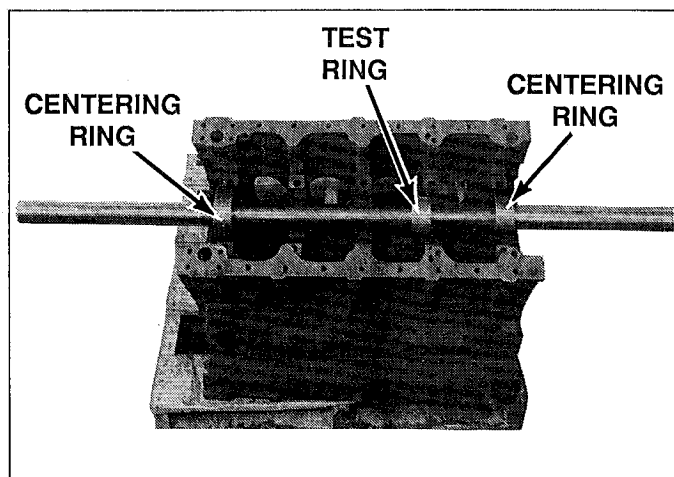

FIG. 2 INSTALLATION OF THE CENTERING RINGS
2. Install appropriate centering rings in each end saddle of the block (Fig. 2). You may have to tap on the centering ring with a plastic hammer to seat it. Reinstall the main bearing caps, and torque to required specifications. (See Engine Shop Manuals).